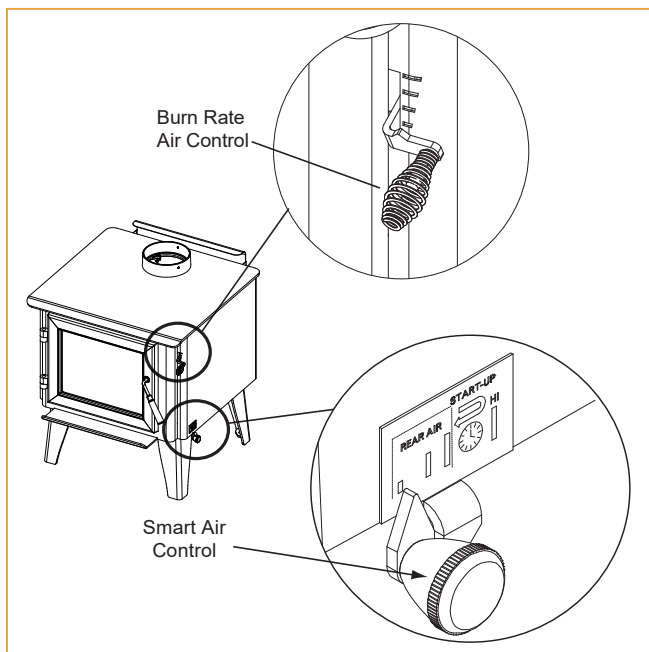

Figure 9.1
2. **Second Stage:** The next stage of burning, the secondary stage, is the period when the wood gives off flammable gases which burn above the fuel with bright flames. During this stage of burning it is very important that the flames be maintained and not allowed to go out. This will ensure the cleanest possible fire. If the flames tend to go out, it is set too low for your burning conditions. The air control located at the upper right hand corner is used to adjust for burn rates. This is called the Burn Rate Air Control (Figure 9.1).
- Then activate the Smart Air Control by pushing the knob all the way back toward the appliance to "HI" then pull forwards towards the front of the appliance until the knob stops (**Figure 9.1**).